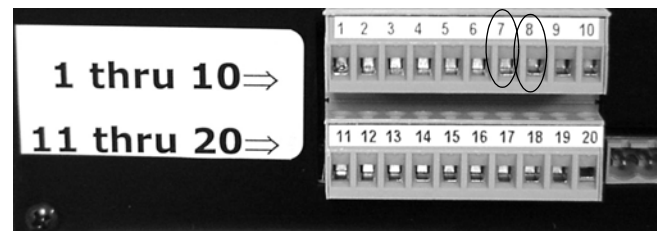

Figure 29. Low Voltage Sensing
1. Connect positive lead (5 - 30 volts AC/DC) to terminal #7 and ground of switching device to terminal #8 (see Figure 29). Unit extends when voltage is sensed, retracts when voltage ceases.